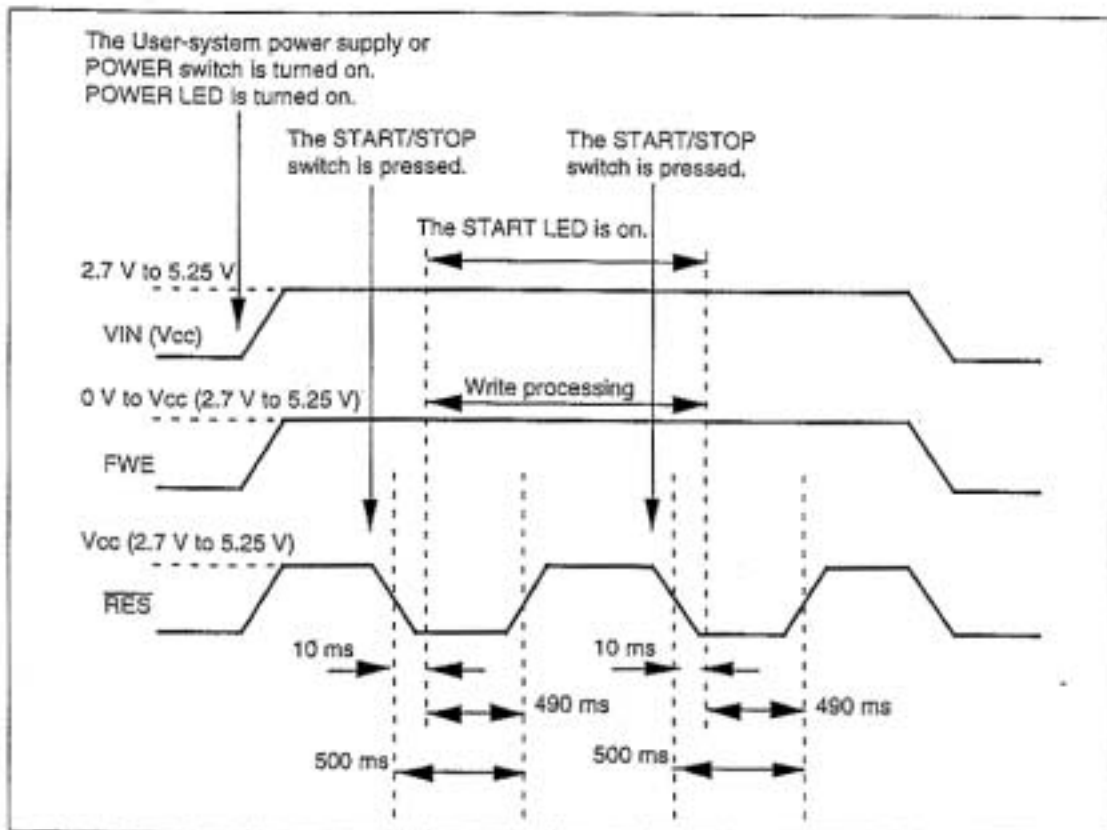

Figure 5.1 Reset Signal, 2.7- to 5.25-V Application, and Stop Timing
2. After 10 ms of the falling edge of the $\overline{\text{RES}}$ signal, 2.7- to 5.25-V application to the FWE/FWP pin starts or stops (figure 5.1).